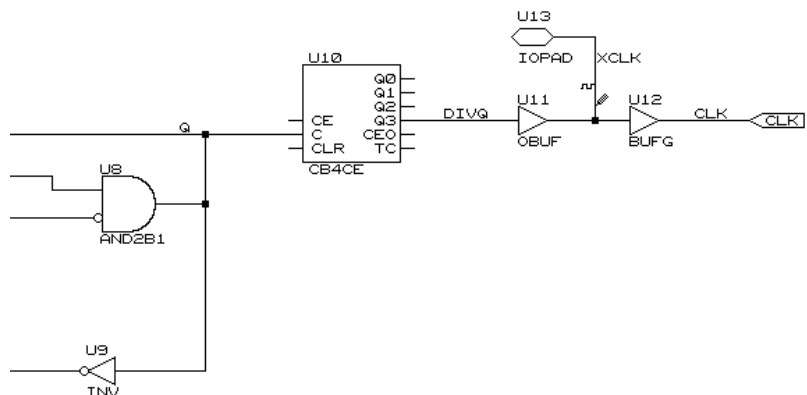

Figure 2-3 New OrCAD Oscillator Schematic for EPLD CALC
6. Edit the schematic so it looks like Figure 2-3. The part of the schematic that is not visible is unchanged except for LOC= properties being removed.